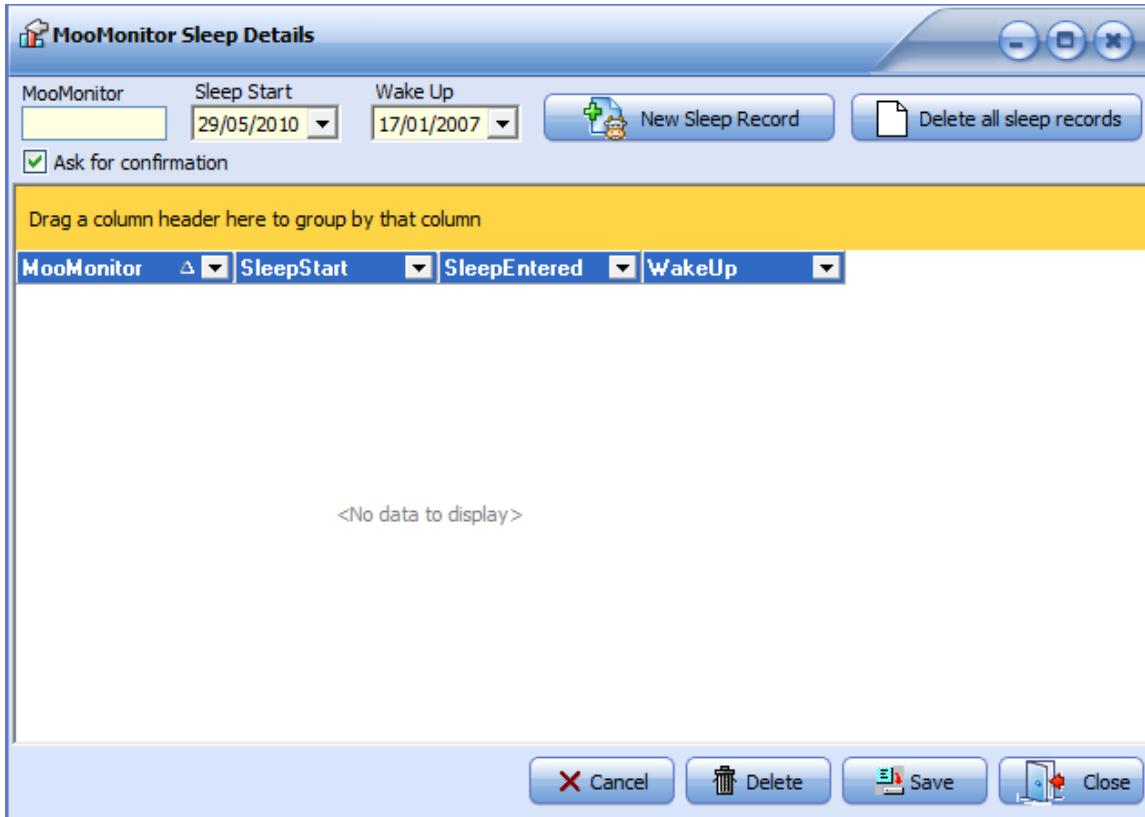

Figure 51 'MooMonitor Sleep Details screen.
h. The screen shown in Figure 51 below will be displayed.
- a. Select the record you wish to delete in Figure 51 on the previous page by clicking on the MooMonitor tag number.